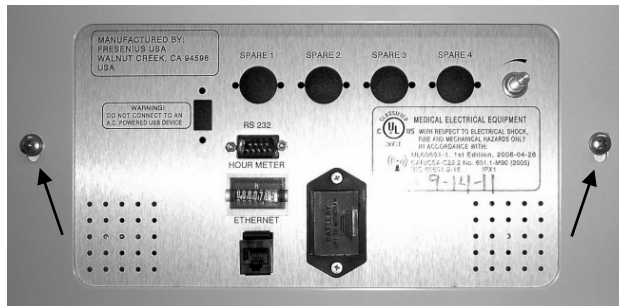

Figure 2
9. Remove the two (2) screws securing the card cage into the cabinet (see Figure 2). Slide the card cage out the front of the cabinet a few inches.